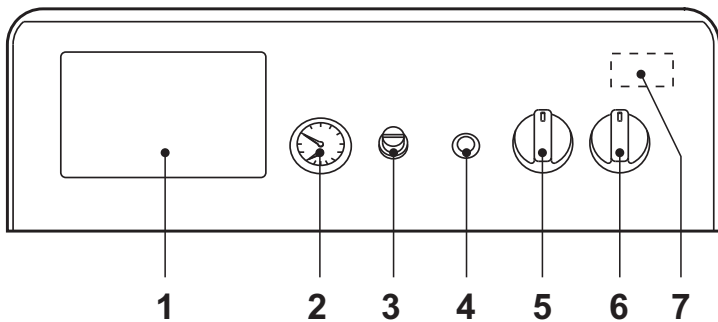
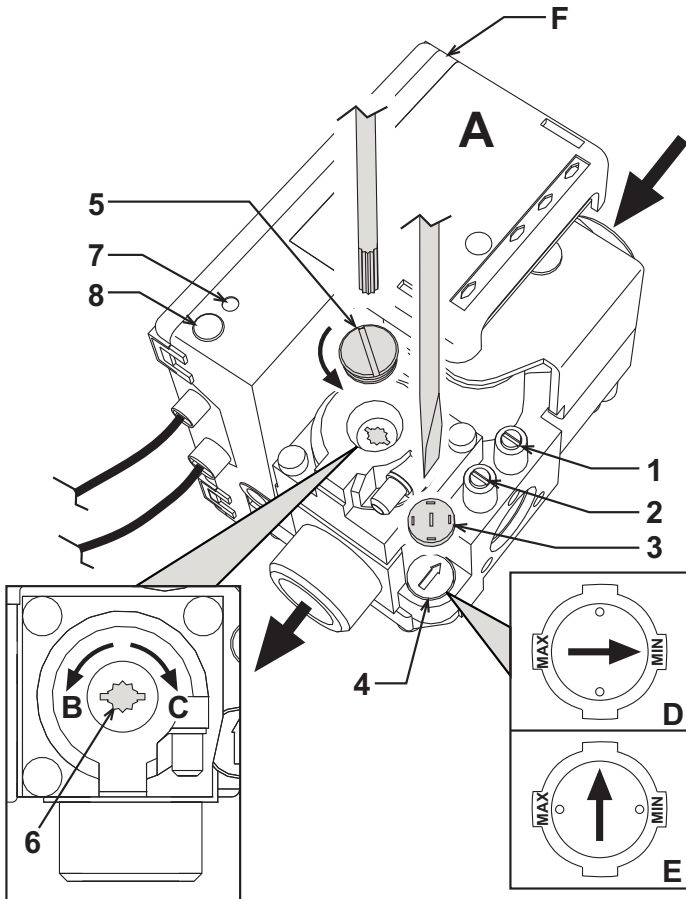

fig. 1 - Control panel
fig. 3 - Pressure adjustment
- Turn the main switch "6" to position 1 (fig. 1).
- If the boiler is equipped with an electronic thermostatic controller fitted in position 1 of fig. 1, the user must also take into account the manufacturer's instructions.
Turn the knob 5 of fig. 1 clockwise to increase the heating water temperature, or anticlockwise to decrease the temperature. The temperature can be varied from a minimum of 30°C to a maximum of 90°C. However, it is advisable not to operate the boiler below 45°C.
Using the room thermostat, set the required room temperature. Controlled by the room thermostat, the boiler lights and brings the system water to the temperature set by boiler control thermostat 5 of fig. 1. The generator turns off when the required temperature in the rooms is reached.
The filling pressure with system cold, read on the boiler water gauge detail 2 of fig. 1, must be approx. 1.0 bar. If, during operation, the system pressure falls (due to the evaporation of gases dissolved in the water) to values below the minimum described above, the User must bring it to the initial value by operating the filling cock. At the end of the operation always close the filling cock.
Connect a manometer to the pressure point **2** (fig. 3) located downstream of the gas valve, and turn the boiler thermostat knob (ref. 5 - fig. 1) to the maximum value.
After removing the protection cap **5** (fig. 3), adjust the gas pressure at the burner by turning the screw **6** to the required value (see technical data table and output variability diagrams given in cap. 5).
2. Remove the small protection cap **3** (fig. 3) from the gas valve. Using a small screwdriver, adjust the ignition "STEP" for the required gas (**G20-G25** position **D** fig. 3 or **G30-G31** position **E** fig. 3); then refit the cap.